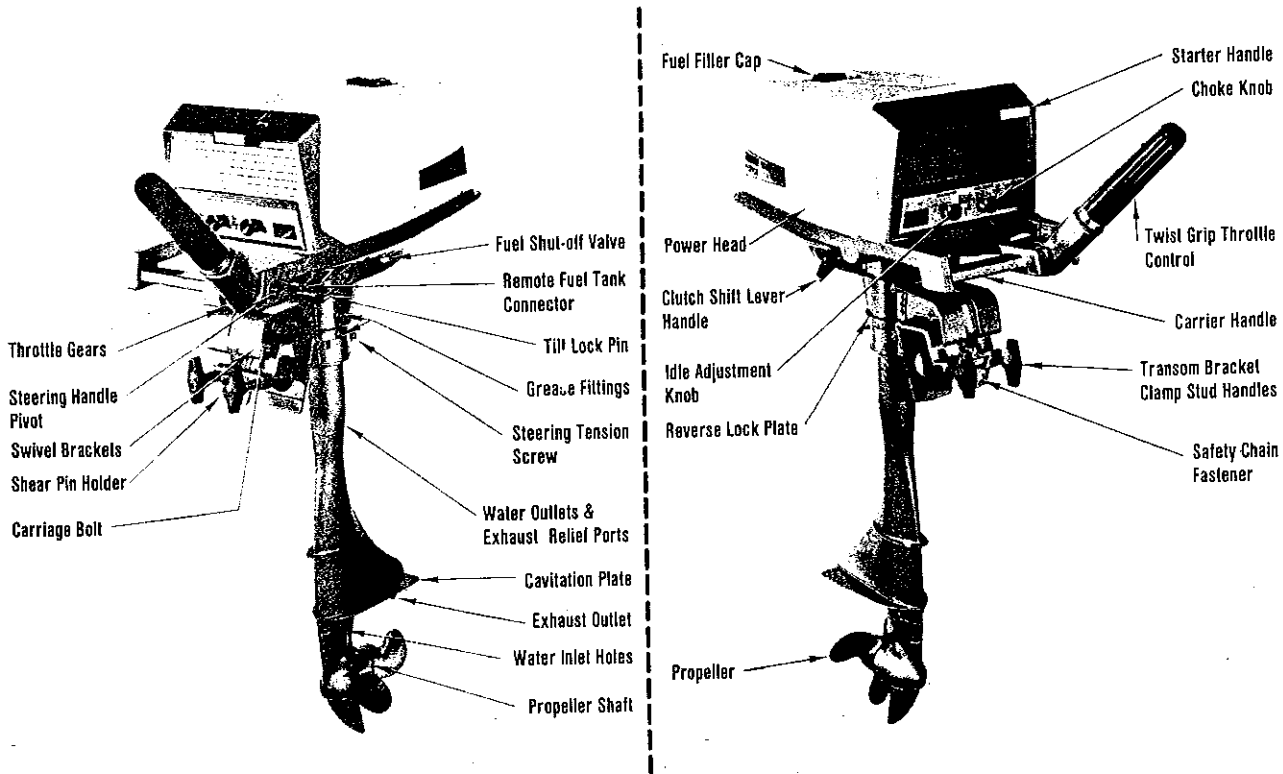

Figure 10. Port and starboard views of typical outboard motor.
B. Use Lithium Grease on Parts Names listed below. (See Figure 10.)
- (1) Propeller Shaft.
- (2) Grease Fittings.
- (3) Steering Tension Screw.
- (4) Throttle Gears.
- (5) Transom Clamp Screws.
C. Use outboard lubricating oil on Part Names listed below. (See Figure 10.)
- (1) Steering Handle Pivot.
- (2) Carriage Bolt.
- (3) Shift Lever Rod.